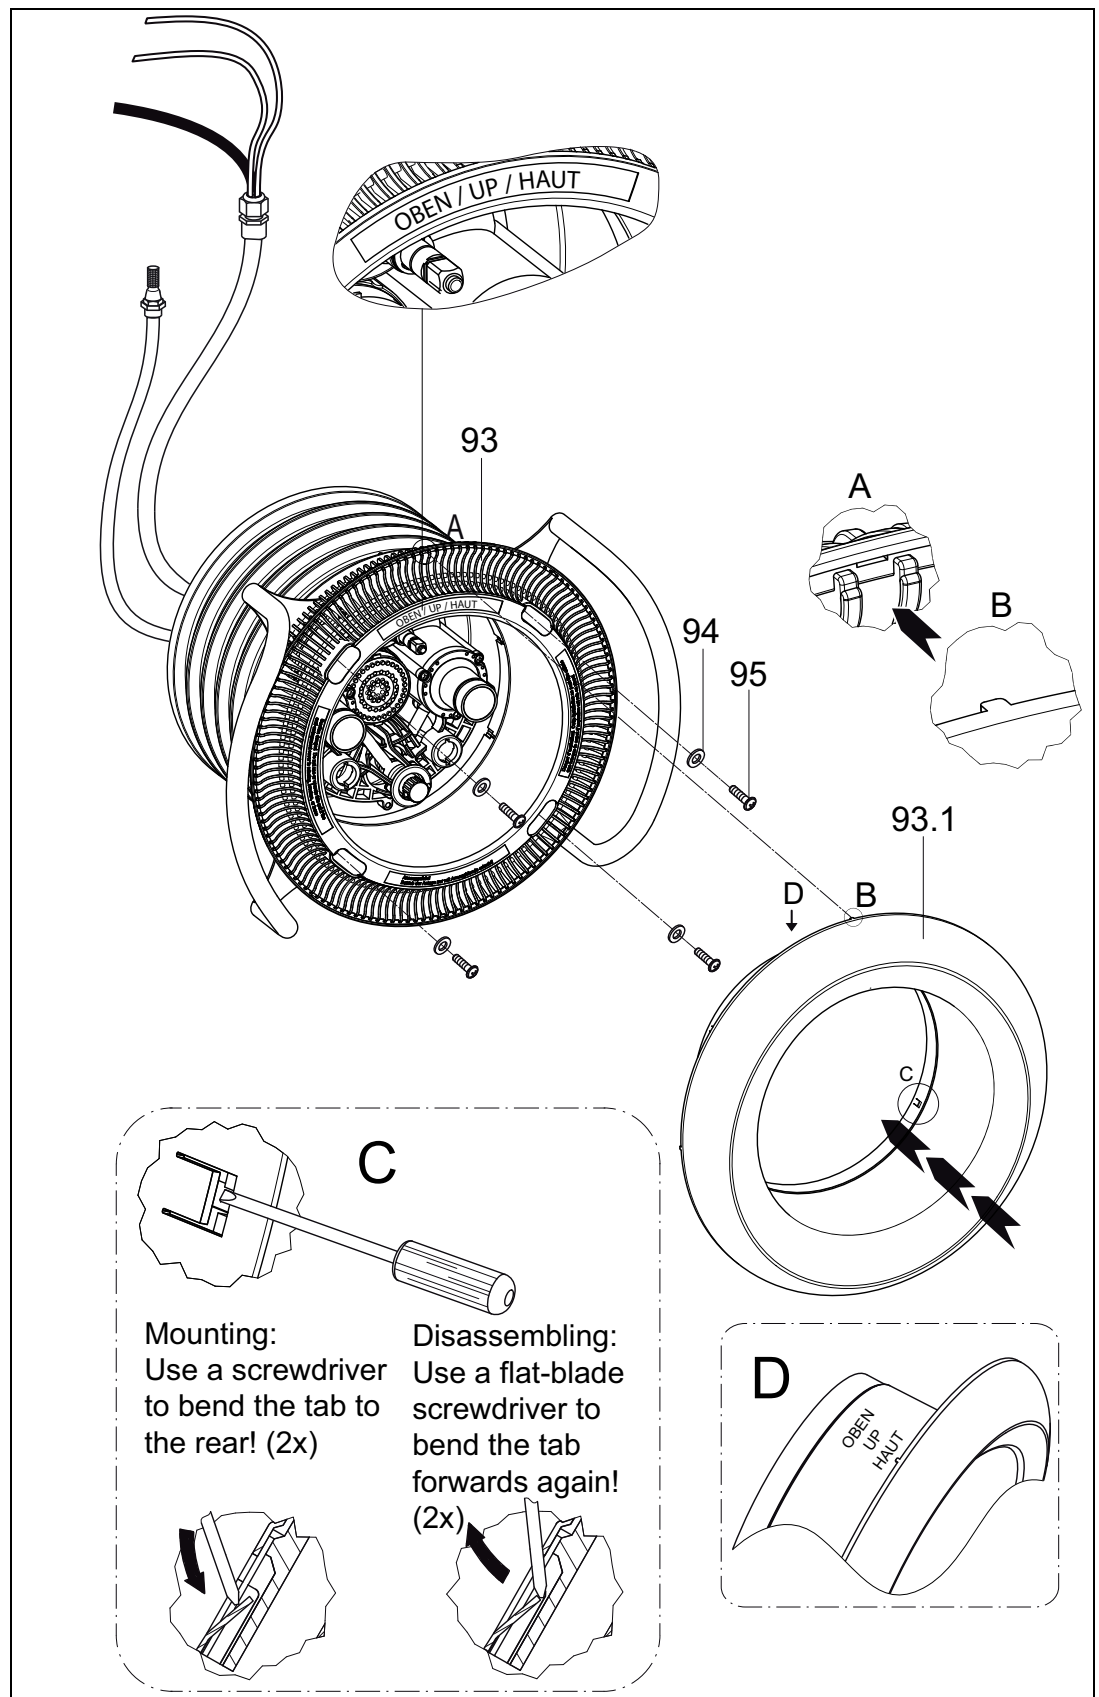

Fig. 11
8. Place the suction panel (93) on the support ring (28) and fasten with four plain washers (94) and four tapping screws (95) (*Fig. 11*). Take the mounting position into account!
9. Align the stainless-steel cover with the protruding centring nubs to the existing recesses of the suction panel **(93)** and press them together by hand. Observe the "UP" marking on the stainless-steel cover. To fasten the cover use a screwdriver to bend the two offset tabs towards the back *(Fig. 11)*.